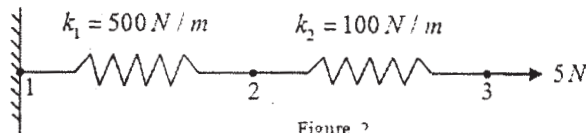

Figure 2
b) Determine the deformations of each springs connected and supported as shown in Figure 2. [8]